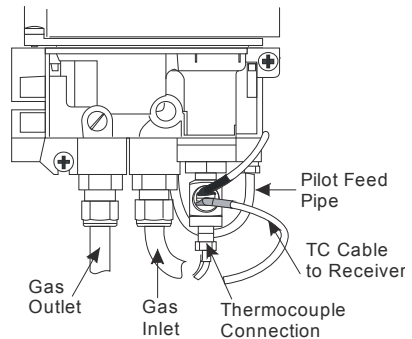

Figure 40
12. Pull out the TC cable (with red sleeve) from the interrupter block (see **Figure 40**).